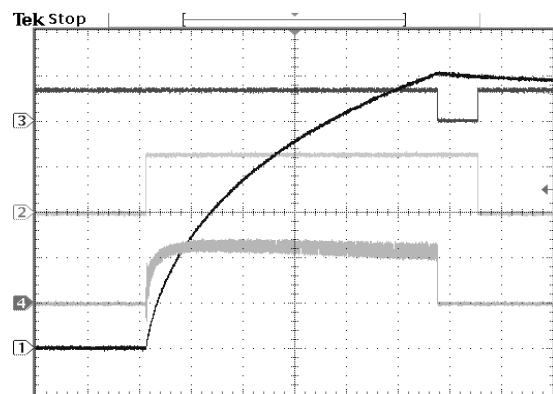
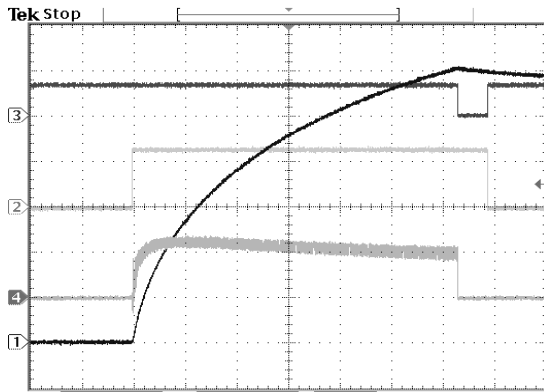
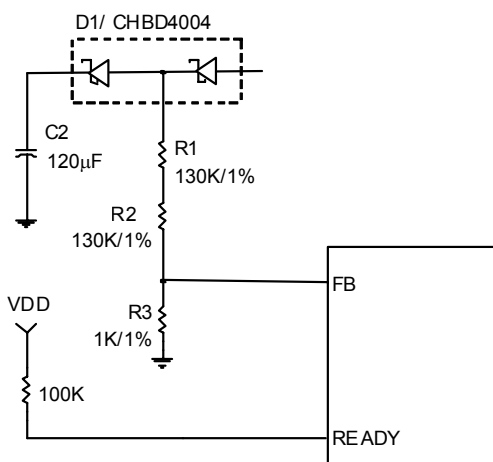

Fig.19 Charging Current with Drop Compensation
Fig.20 Charging Current without Drop Compensation
Fig.21
When the users select lower charging current limit values (I_{LIM1} or I_{LIM2}) to charge the output capacitor, the input charging current will exhibit larger drop phenomena and cause longer charging time. The LD7265A built a charging current drop compensation scheme to compensate the drop phenomena. When the users select the lower charging current limit values (I_{LIM1} or I_{LIM2}), LD7265A will linearly increase the primary current from 0% to 15%, during the whole charging cycle. Please refer to Fig.19 and Fig.20.
A resistor divider can be connected to the central of the dual diode to eliminate the leakage current after the charging completes. Fig.21 shows the application circuit of resistor divider.
It's not recommended to choose the resistors larger than 1K Ω to connect with FB to GND (R3 in Fig. 21), since larger resistors would combine with parasitic capacitance and affect the accuracy of V_{OUT} detection. As well, the switching nodes such as LX pin or secondary side of XFMR should be kept routed away from FB pin in such application of Fig.20 to obtain accurate V_{OUT} detection.
3. Refer to Fig.21, there should be no GND plane or GND path close to nodes of R1, R2 and R3.